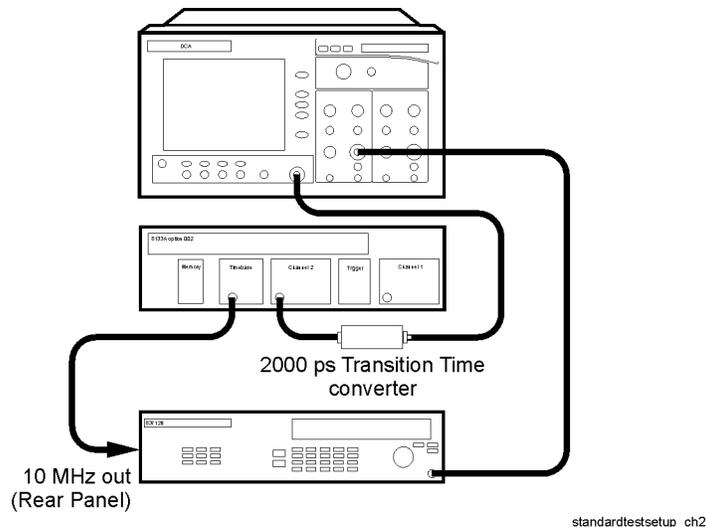

Figure 3-1. Timebase Adjustment Setup
- 11 Connect equipment as shown in Figure 3-1.